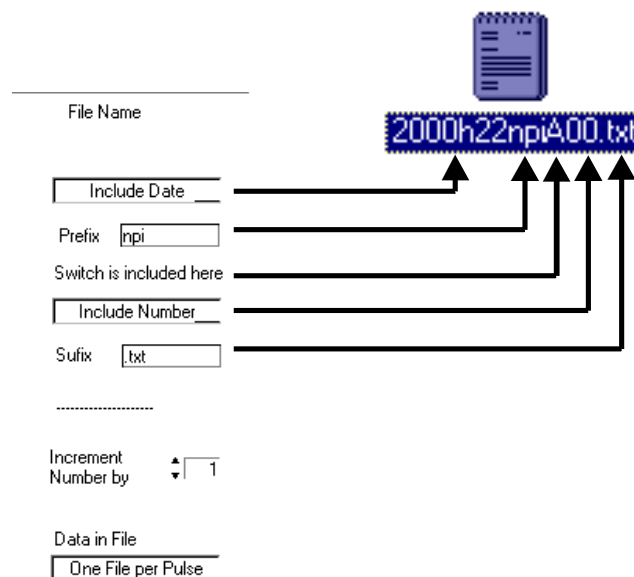

Figure 25: file names
- ❑ **“File Name”** field (Figure 25 and chapter 7.4). Here, the user can set file name preferences, e.g. whether the name includes the date, set suffix or prefix letters or numbers and whether one file per PULSE or one file per PULSE sweep is written to hard disk